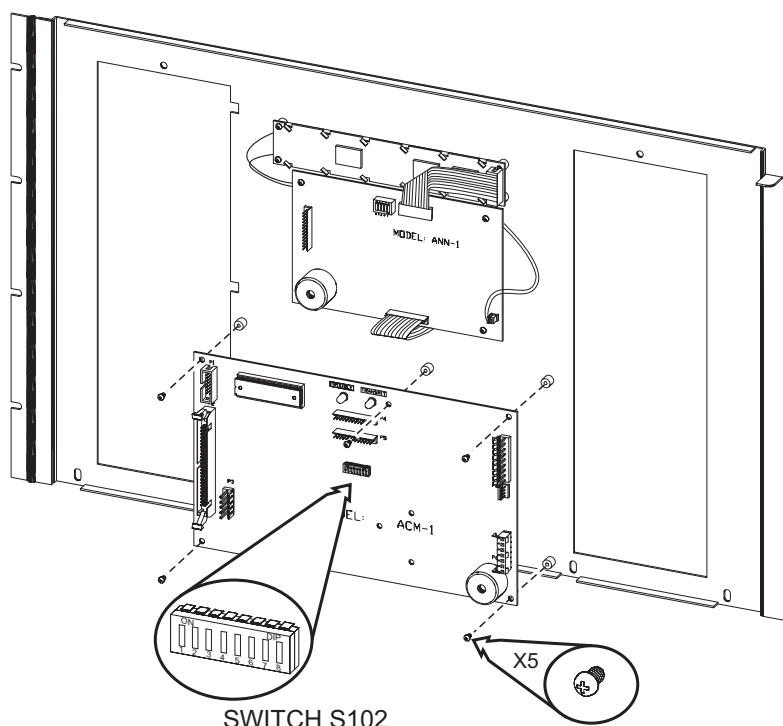

Figure 2
The ACM-1 occupies one network address. The switch S102 shown in Figure 2 is used to set the network address that was chosen in CSG-M for the ACM-1 module.
3. Set the ACM-1 address on switch S102. (Refer to Figure 2 for the location of S102.)
- With the board in that position, place the module over the five threaded mounting spacers. (See Figure 2.)